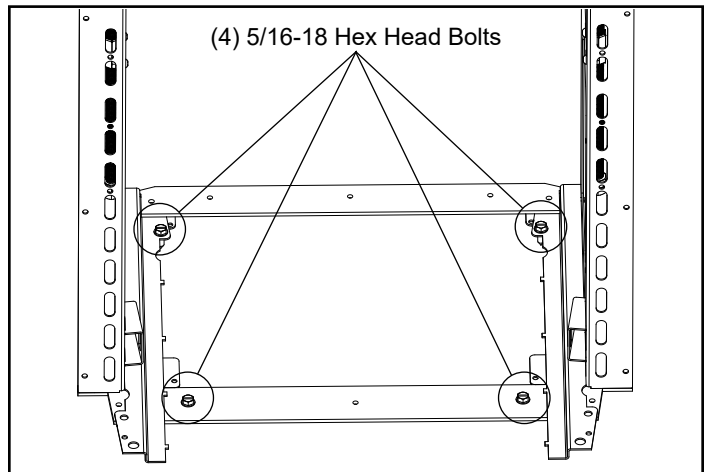

Figure 5.4 - Remove (4) 5/16-18 Hex Head Bolts
Now that the unit is removed you can now remove the mounting frame from the skid. To do this simply remove (4) 5/16-18 Hex head bolts. Figure 5.4.